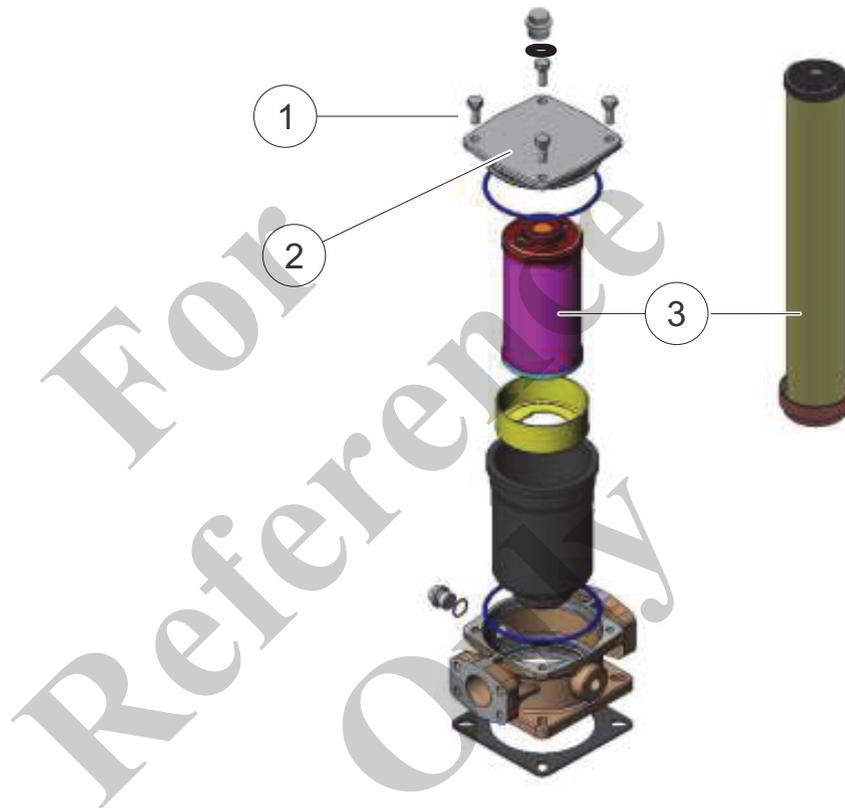

Fig. 211 Return filter
2	Unscrew the cover screws (1) in Fig. 211.
3	Remove the cover (2) in Fig. 211.
4	Pull out the filter element (3) in Fig. 211.